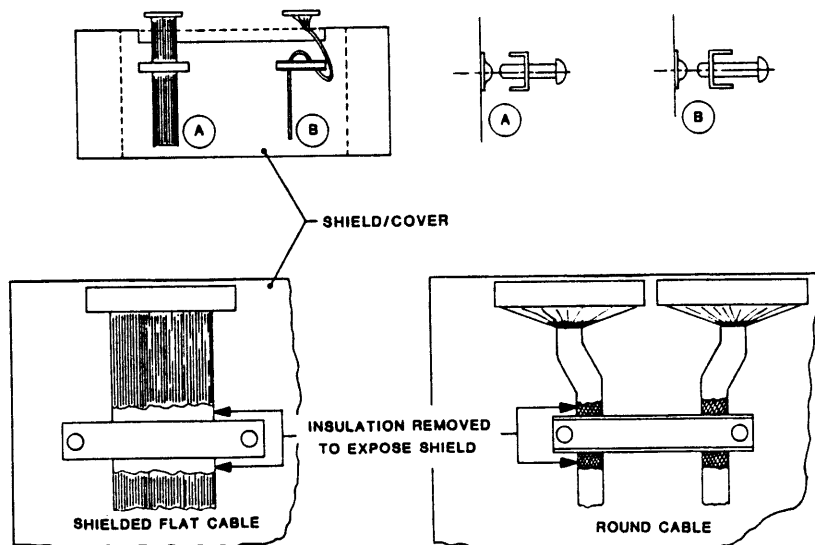

Figure 2-3. Grounding Cable Clamp Details
Recommended connectors and cables are as follows: - Daisy chains may optionally require a Cable Connector Adapter (See Figures 2-3 and 2-5).
1. Using the 10-32 Slotted Screws (7) and Nut Plates (6)* provided, loosely assemble an Adjustable Mounting Bracket (5) to the rear of the Right Track Assembly.
3. Aligning the bottom of the Fixed Mounting Bracket (3) at the 2-inch mark on the front of the 19-inch Rack, and using the 10-32 Screws (7) provided, mount the Fixed Mounting Bracket (3) to the front of the 19-inch Rack, and mount the Adjustable Mounting Bracket (5) (loosely attached to the rear of the Center Track) to corresponding holes in the the rear of the 19-inch Rack. Level the Track and tighten all Screws.
- E. Remove about an inch of insulation from each Interface Cable at a point where the Cable will pass under the Grounding Cable Clamp(s). This will expose the cable shield. Run the Interface Cables under the Cable Clamp(s) as illustrated in Figure 2-3. Tighten the Clamp(s).